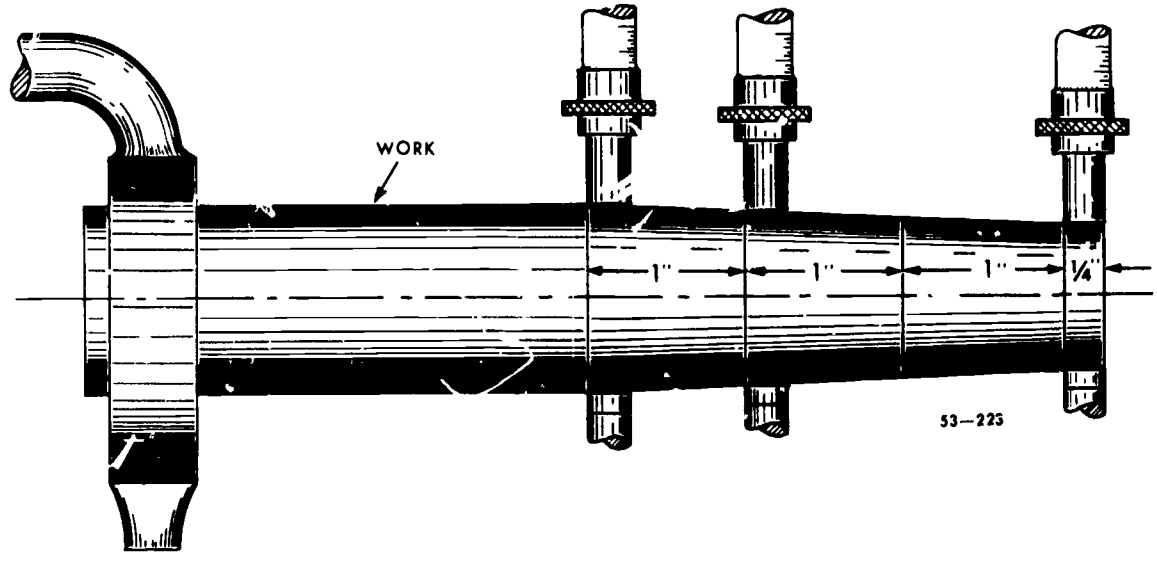

Figure 5-18. Measuring taper per inch with a micrometer.
- Tapers may be checked by scribing equally spaced lines 1 inch apart on the tapered portion of the work and determining the differences in diameters between lines with a micrometer, as shown in figure 5-18. Careful layout of the lines and alignment of the micrometer will help to insure accurate results when you use this method.
**Exercises (255):**